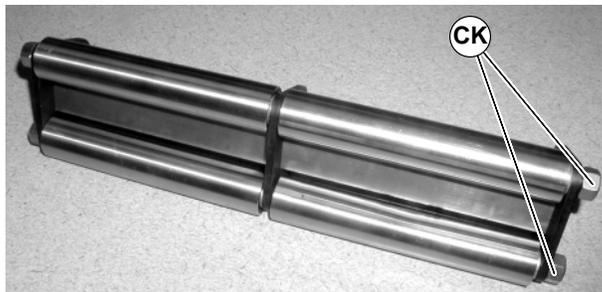

Figure 68
5. Remove hex nuts (CK of Figure 68).